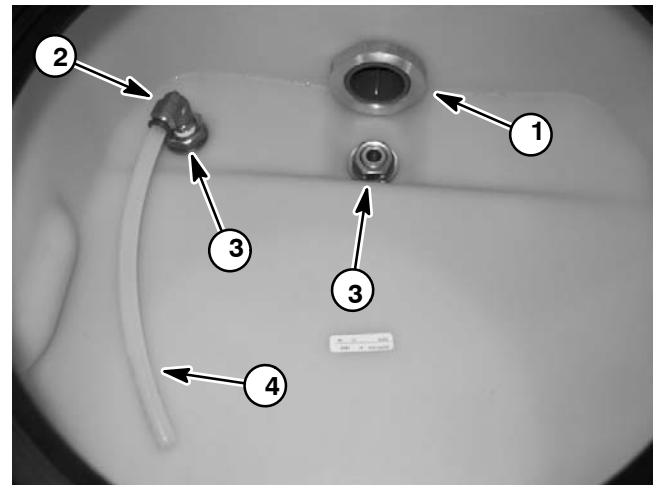
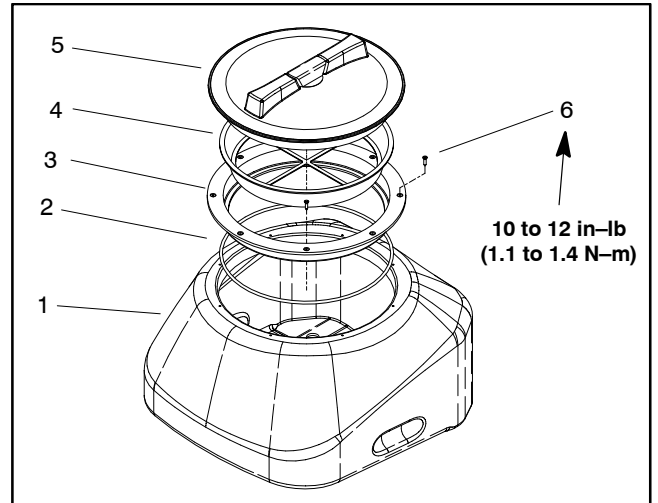

Figure 5
Figure 6
3. Loosen nut that secures drain valve to tank (Fig. 5).
4. Remove two (2) flange head screws (item 16) that secure drain valve to valve bracket. Remove nut from drain valve and remove valve from machine. Retrieve o-ring (item 12) from outside tank.
5. Remove agitation tube from elbow fitting (Fig. 5) (see Quick Disconnect Fitting in the General Information section). Loosen and remove elbow fitting.
6. Remove two (2) jam nuts that secure tank to ball valve ports (Fig. 5). Locate and retrieve washers (items 4 and 20).
7. Remove four (4) flange head screws (item 17) that secure tank to tank support.
8. Lift tank from machine. Locate and retrieve rubber washers (item 8) that seal tank to ball valve ports. Discard washers.
9. If necessary, remove tank lid flange using Figure 6 as a guide.
1. Place new rubber washers (item 8) on ball valve ports.
A. Valve fitting washers (items 4 and 20) and jam nuts (item 5).
B. Drain valve, o-ring (item 12) and nut (item 2).
C. Four (4) flange head screws (item 17).
4. Torque jam nuts (item 5) from 192 to 216 in-lb (21.7 to 24.4 N-m).
5. Tighten drain valve nut (item 2) to secure drain valve to tank. Then tighten two (2) flange head screws (item 16) that secure drain valve to valve bracket. Finally tighten the four screws (item 17) to secure tank to machine.
6. Install elbow fitting (item 6) and torque from 144 to 156 in-lb (16.3 to 17.6 N-m). Install agitation tube to elbow fitting (Fig. 5) (see Quick Disconnect Fitting in the General Information section).
7. If removed, install tank lid flange using Figure 6 as a guide. Torque screws from 10 to 12 in-lb (1.1 to 1.4 N-m).